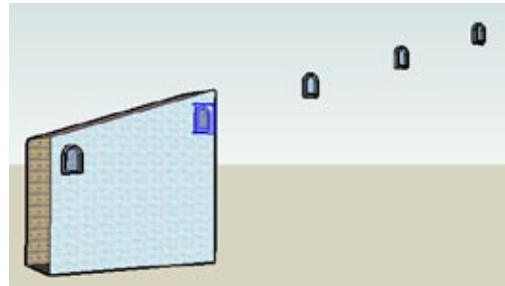

Figure 1-38
4. You can change your mind and use an internal array as shown in Recipe 1.2. Just enter the distance between the first and last windows. The distance in this example is 50 feet. You will still have the same number of windows as before, but they will be spaced so that only two appear on the building (Figure 1-38). You may have to zoom out to see the rest of the windows.